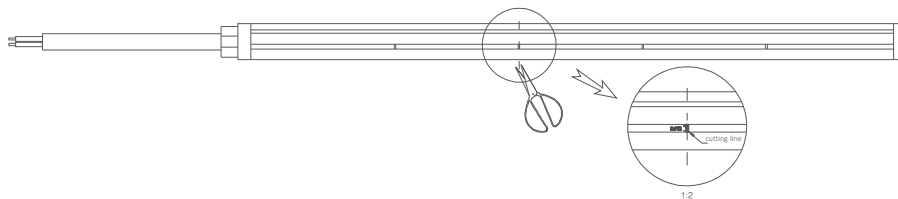

figure 3
- Use scissors to cut along the cut line, as shown in Figure 3.